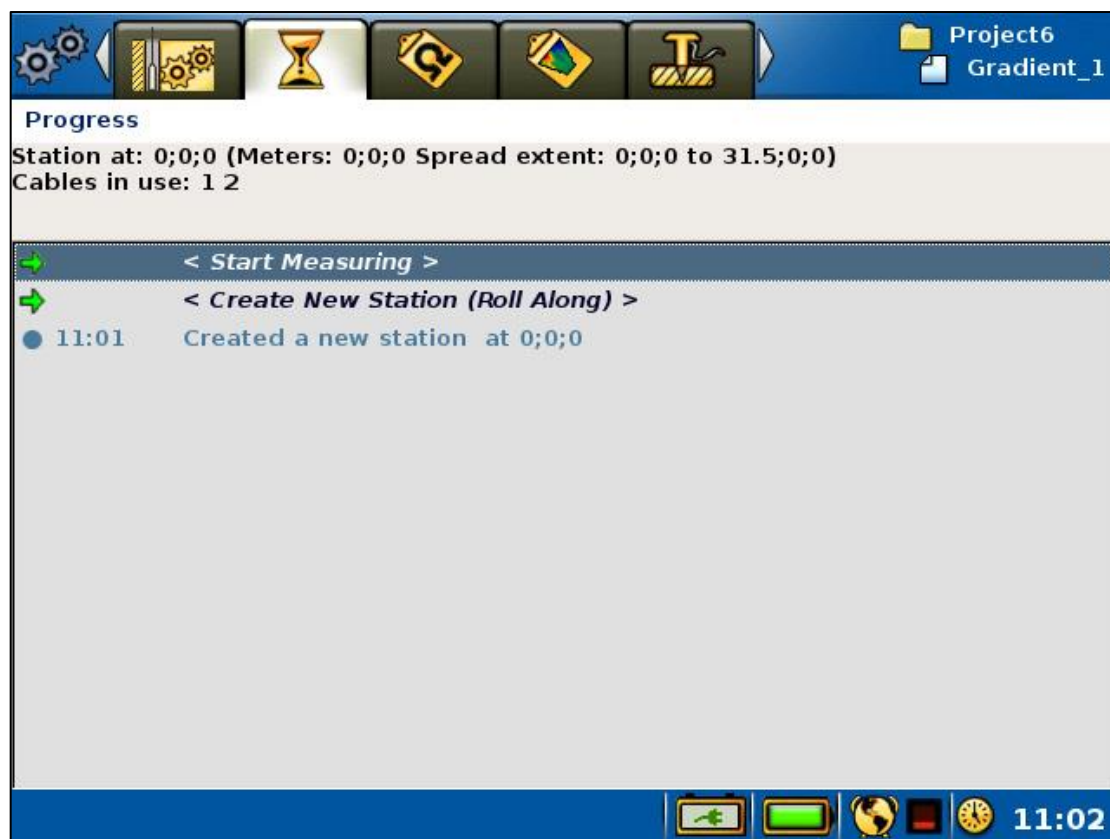
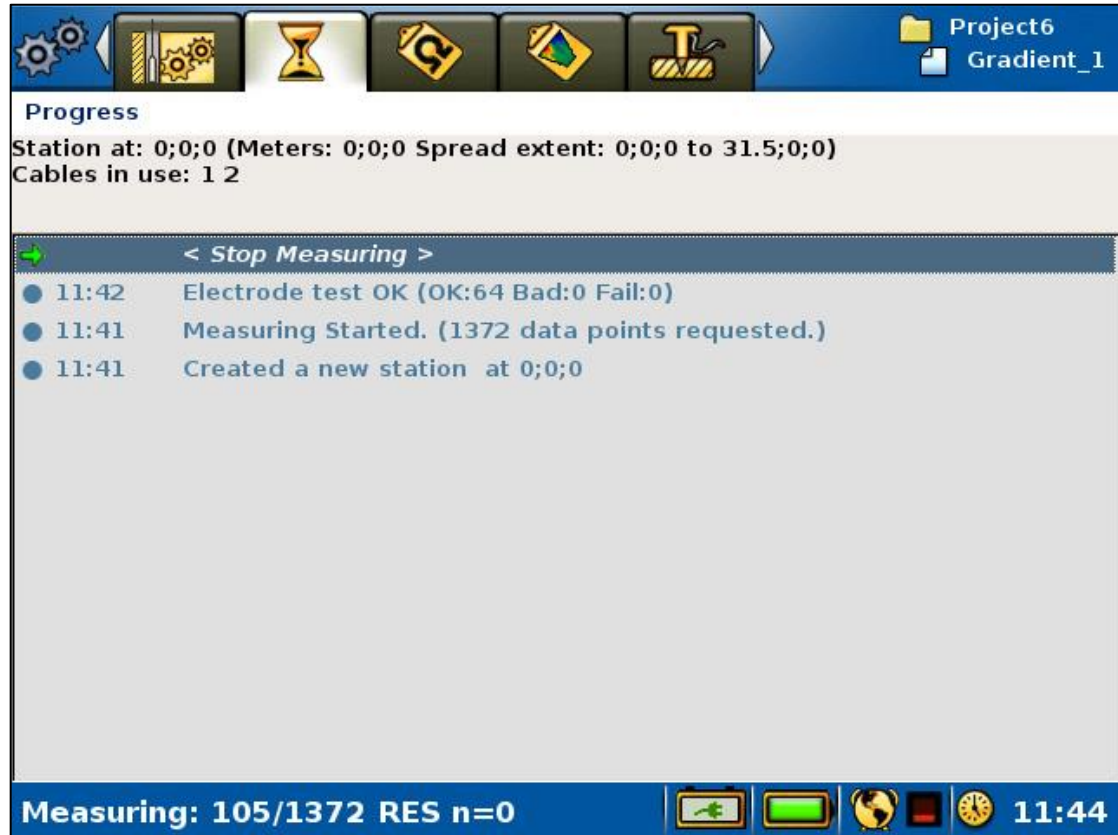

Figure 54 Start measuring command on measuring progress view
Figure 57 Progress view
- Move the highlight to the <Start Measuring> row (Figure 54)ith
The measuring progress is shown on the “*Measure/Progress*” View (Figure 57).
The top of the “*Measure/Progress*” View shows the coordinate location of the cable spread, and which of the cables that still remain to be used by the protocol on the present measurement station (Figure 54 and Figure 57). If all measurements for the cable have been completed it is removed from the list, so that only cables with remaining measurements on the current station are listed on that line.
- Move the highlight to the <Stop Measuring> row (Figure 57)